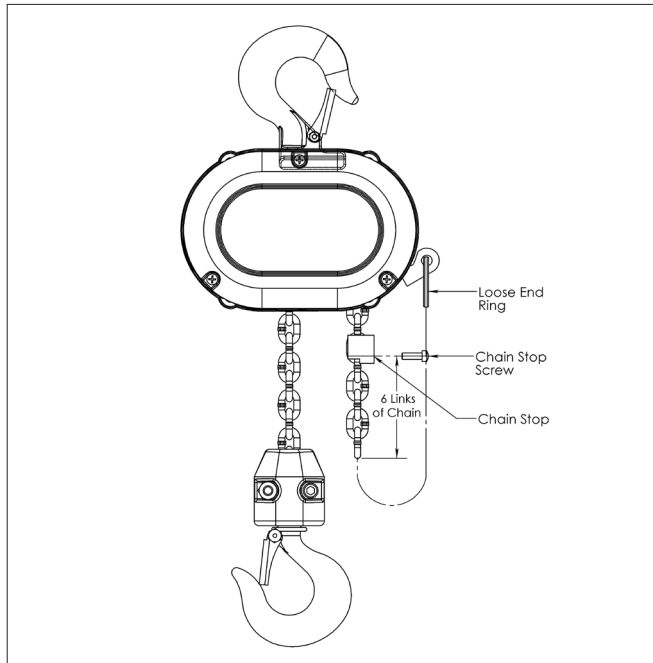

Figure 28 - Chain Stop
4. Jog the UP push button while pulling on the free end of wire until the chain comes out of the hoist. Remove the wire and attach the chain stop as shown in Figure 28. On units with chain container, place chain stop and loose end of chain in chain container. Attach chain container to chain guide.